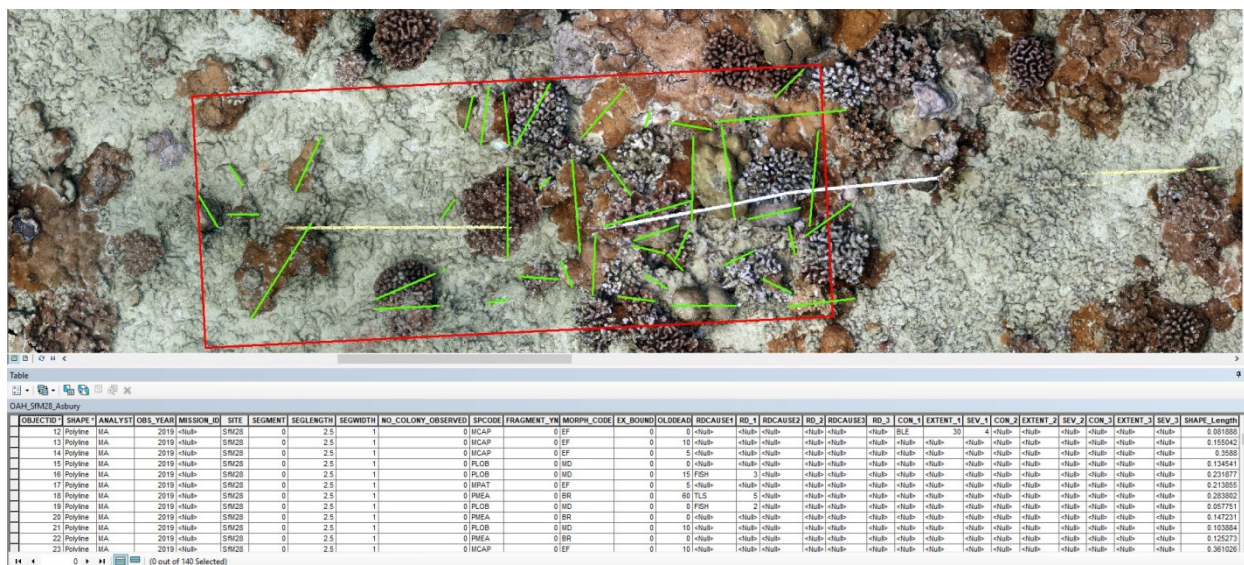

Figure 30. Screenshot in ArcMap once all colonies in the segment are analyzed.
12. Once all colonies are identified and analyzed (Figure 30), end the editing session and save your edits.